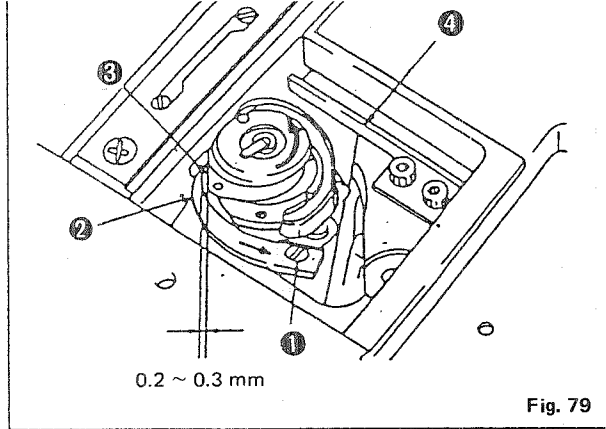

Fig. 79
Adjust cutting of the bobbin thread knife by appropriately pressing the thread nipper spring ④ against the needle thread knife. It is desirable to press the thread nipper spring as lightly as possible for longer life of the knife, provided that thread is cut without fail. (Fig. 79)